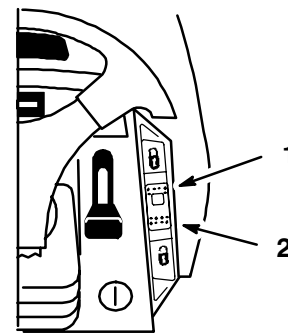

Figure 15
The cruise control is optional on some models. A 3 position: Set-Lock (spring loaded), On and Off-Unlock dash switch (Fig. 15) controls the engagement. Cruise control maintains the traction control position without foot pressure. Cruise control is intended for operation in the forward direction only. Do not use cruise control in reverse.
1. While holding your foot steady on the traction control, push the cruise control switch (Fig. 15) to the “SET”-“LOCK” position.
1. While holding your foot steady on the traction control, move the cruise control switch (Fig. 15) to the “UNLOCK”-“OFF” position.